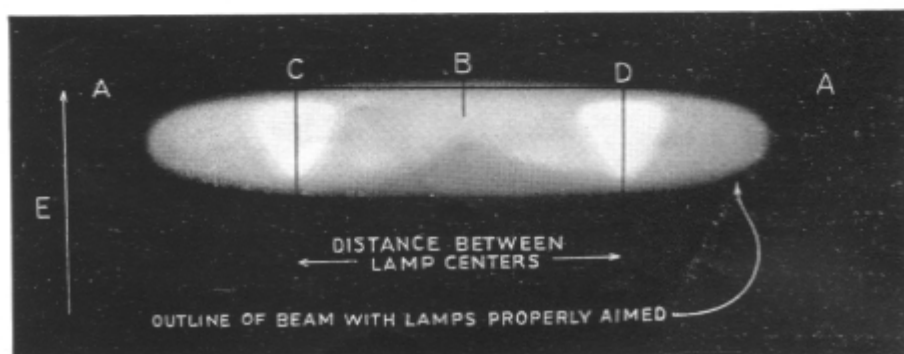

Figure 27
Place the car on a level floor or driveway, squarely in front of a white wall or screen at a distance of twenty-five feet. Draw a horizontal line (AA), Figure 27, on the wall six feet long and at a height of thirty-nine inches above the floor (E). This line represents the top of the beam. Next draw two vertical lines (C and D) twenty-four inches long, a distance of thirty and one-eighth inches apart. Measure one-half the distance between (C and D) and draw line (B) ten inches long. These vertical lines represent the distance between lamp centers.